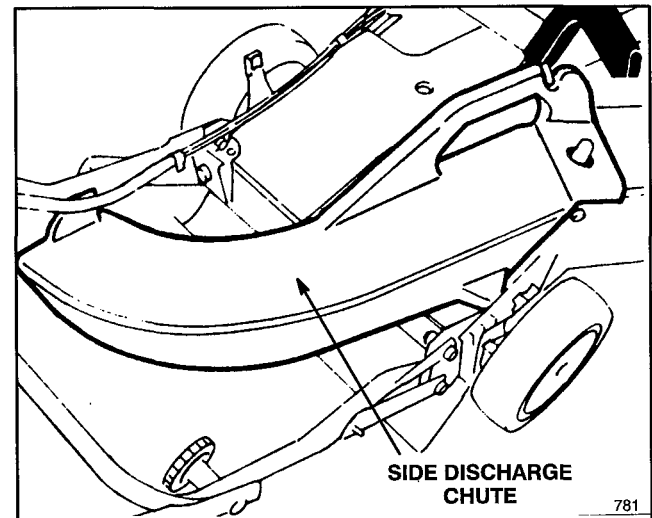

Figure 36
3. **Side Discharge Kit, Model No. 59189**—Install discharge tunnel and rear mounted side discharge chute to convert the Recycler® II Super Pro® mower to a side discharge mower (Fig. 36). Includes discharge tunnel plug.